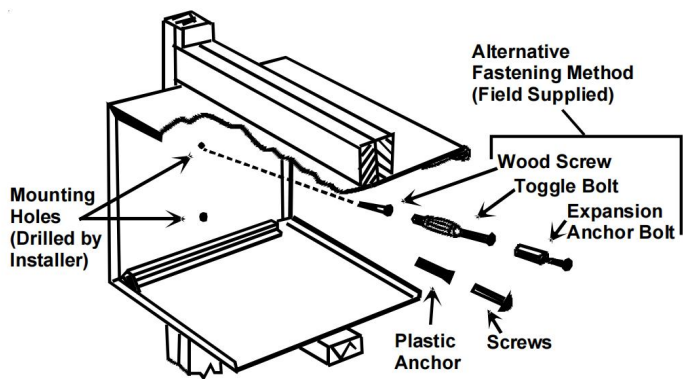

Figure 5
5. When installed in the opening, the wall sleeve must be level from side to side and sloped one quarter bubble front to back. **DO NOT SLOPE THE WALL SLEEVE TOWARD THE ROOM.** See Figure 5. This is for the condensate to discharge.
7. Attach the sleeve using four #12x2" wood screws (for wood constructed buildings) or four #12x2" masonry screws (for cement or brick constructed buildings) (Figure 5). Fixed 2 places on the left and right sides, Make sure